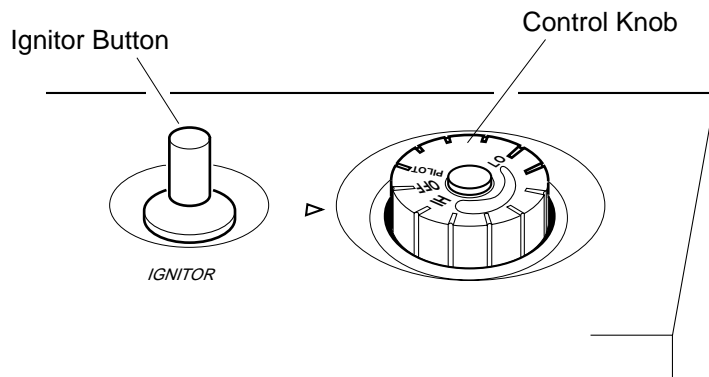

Figure 17 - Control Knob In The OFF Position
4. Wait five (5) minutes to clear out any gas. Then smell for gas, including near the floor. If you smell gas, STOP! Follow “B” in the safety information at the top of page 17. If you don’t smell gas, go to the next step.
5. Turn control knob counterclockwise  to the PILOT position. Press in control knob for five (5) seconds (see Figure 17).